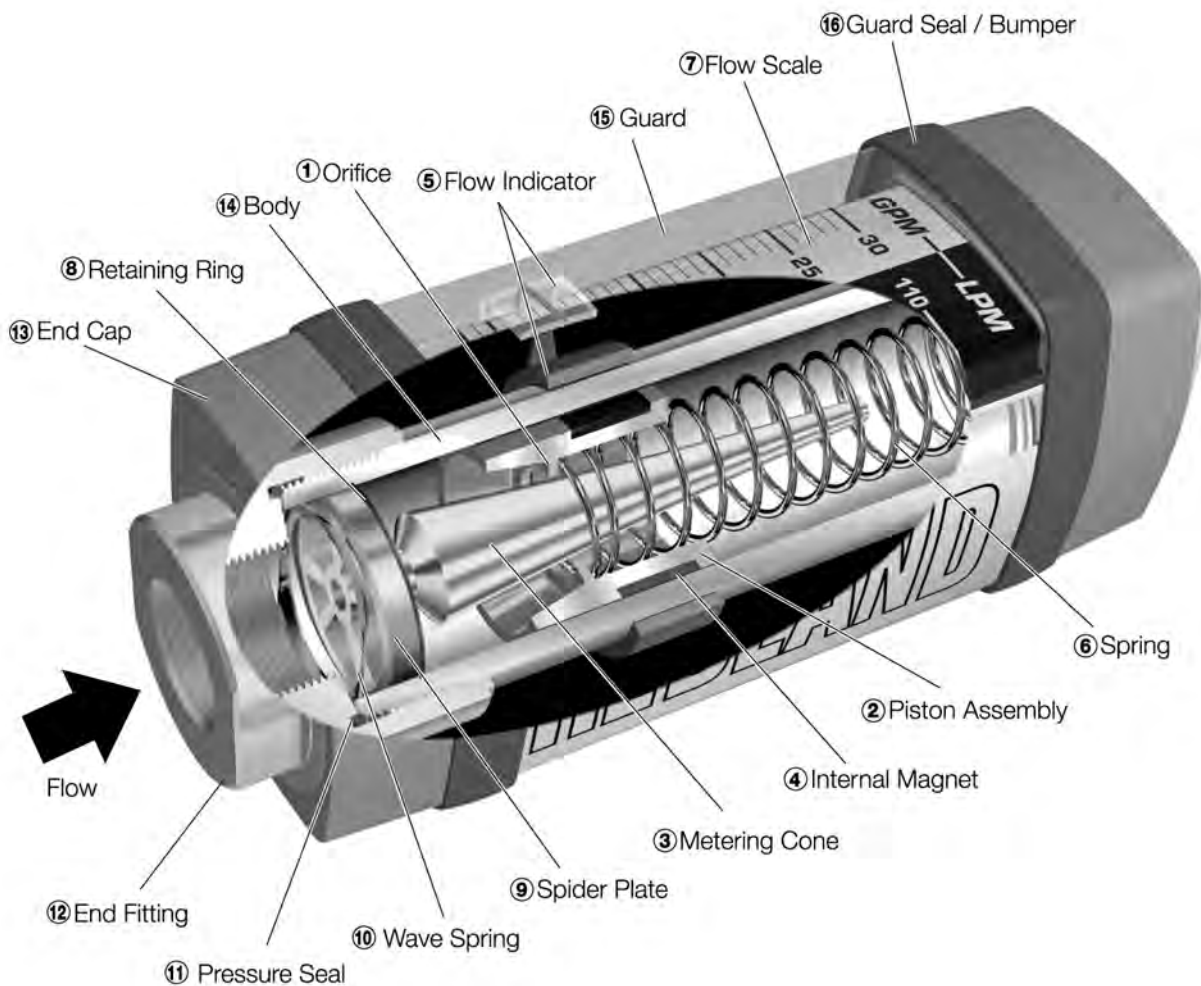

Figure 1: Inline pneumatic flow meter
1. Mount the meter so fluid is traveling in the direction of the flow arrow. See *Figure 1 on page 4*.